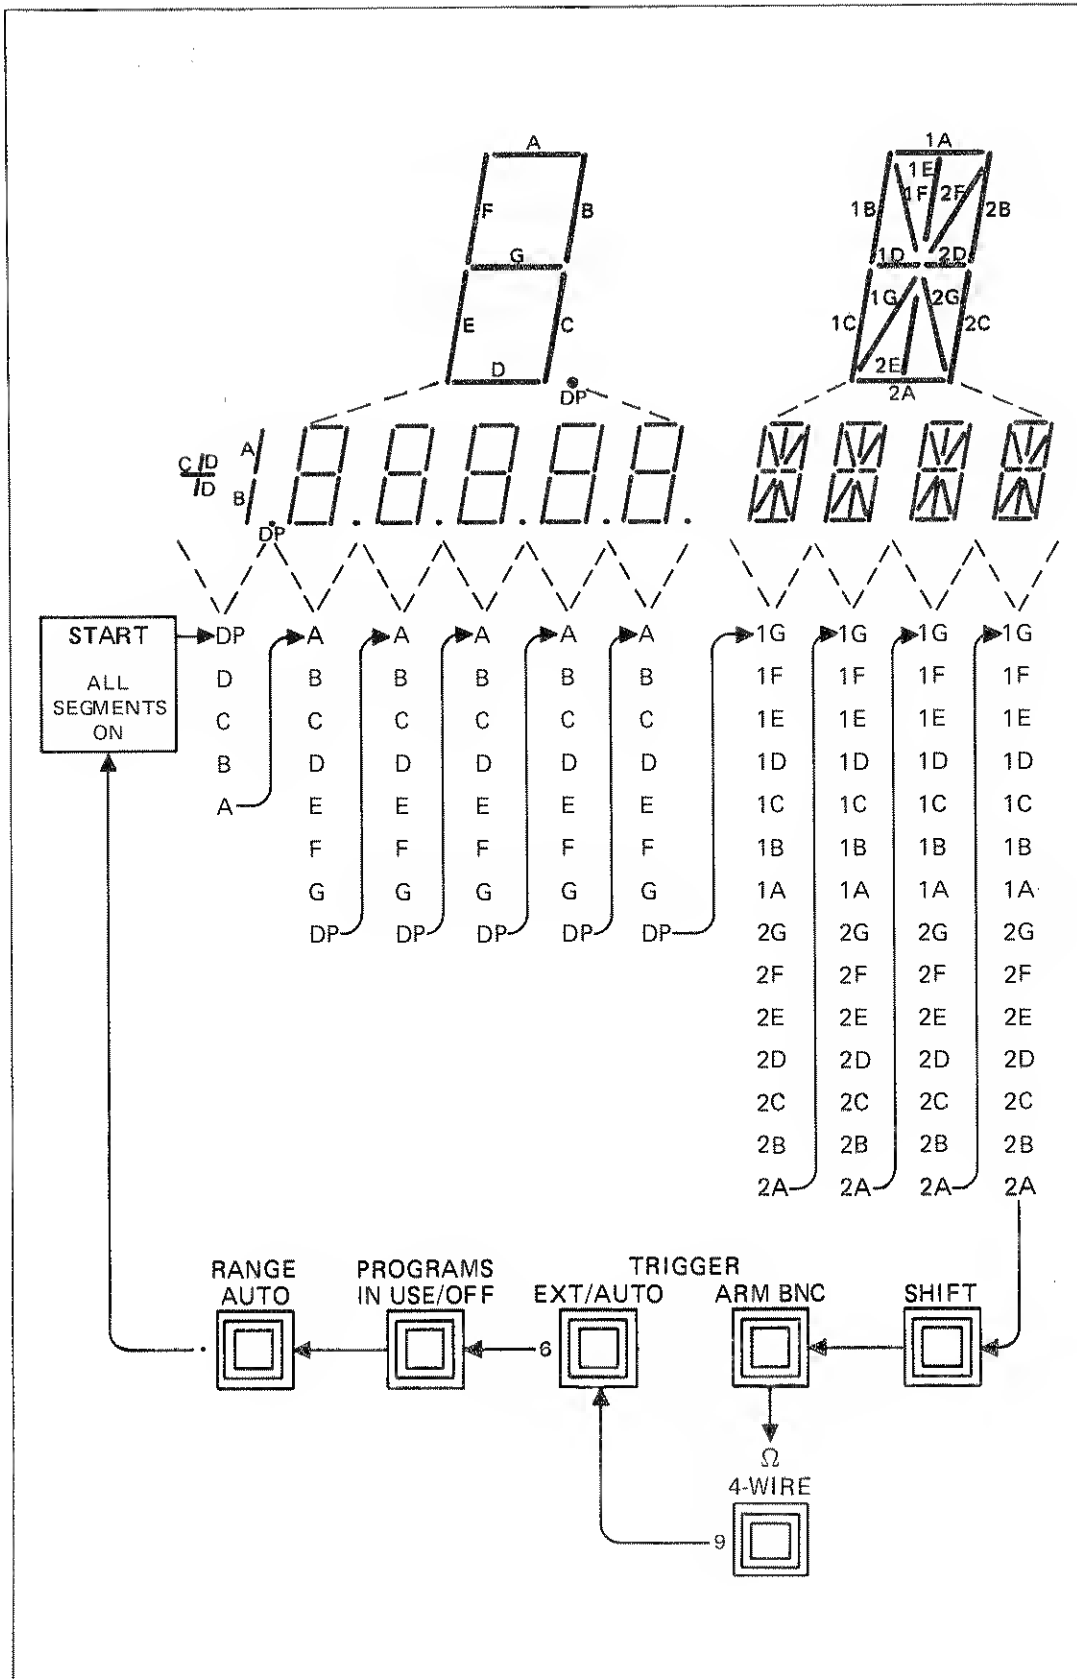

Figure 7A-1. LED Test Sequence
5. LED TEST -- Push RESET to start the LED test. The LED Test can be stepped or scrolled. The test will step each time RESET is pushed and released or the test will scroll while RESET is pushed and held. Figure 7A-1 shows the sequence that the LED segments are turned on. Note that in the first step, all segments of every LED are on.